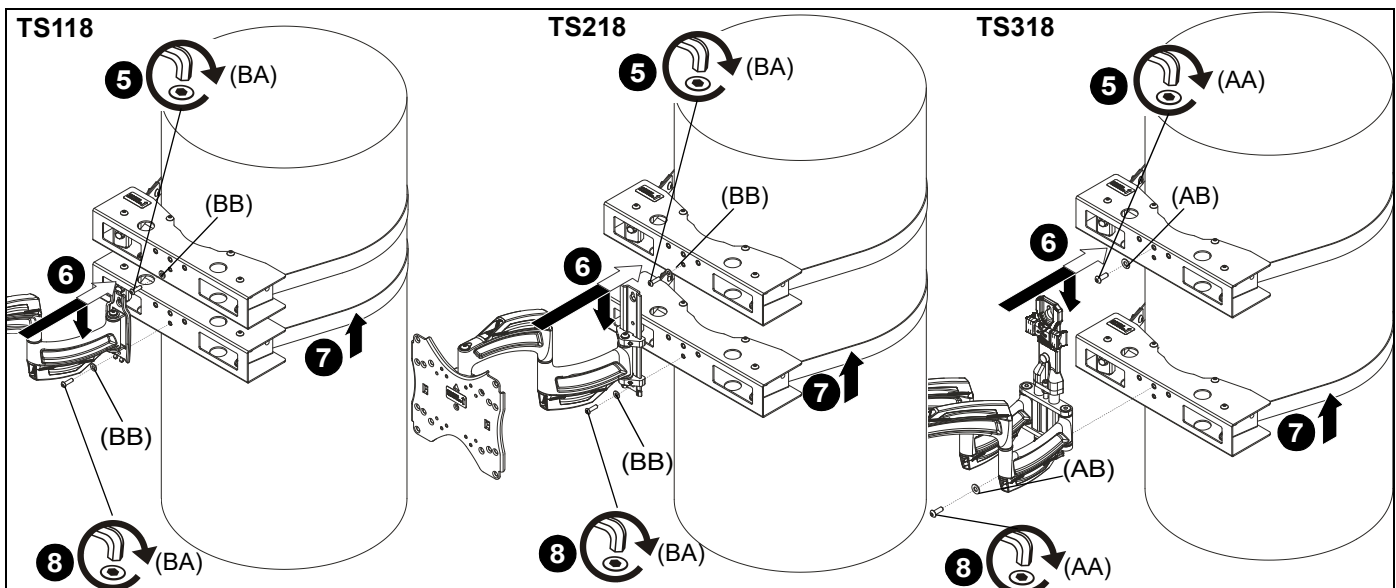
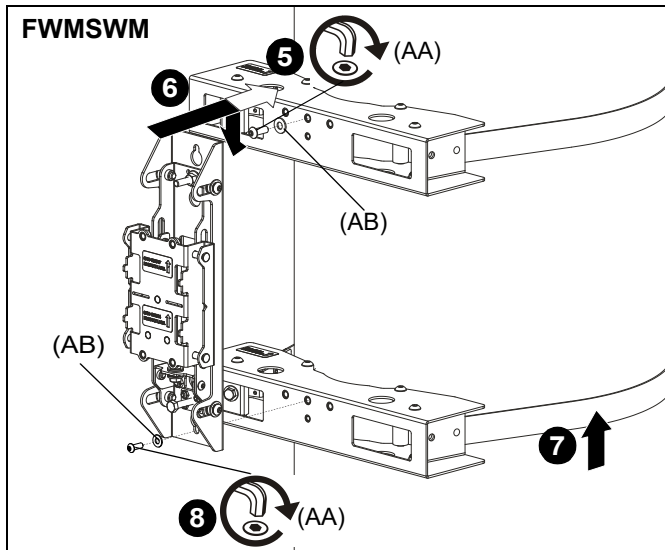

Figure 3
Figure 4
5. Loosely install appropriate hardware (AA and AB) or (BA and BB) to appropriate mounting hole in top column clamp (D). (See Figure 3) or (See Figure 4)
7. Install lower column clamp (D) following Steps 1-4, aligning it with the lower mounting hole on mount. (See Figure 3) or (See Figure 4)
8. Use appropriate hardware (AA and AB) or (BA and BB) to secure mount to lower column clamp (D). (See Figure 3) or (See Figure 4)